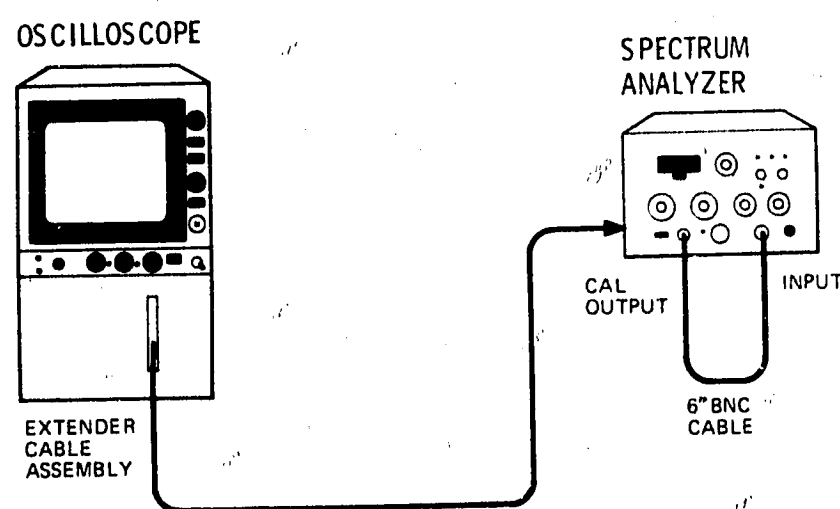

Figure 5-4. LC and Crystal Bandwidth Filter Adjustments Test Setup
2. Connect equipment as shown in Figure 5-4. Center signal with TUNING control. Using REF LEVEL FINE control, set signal near top graticule line.